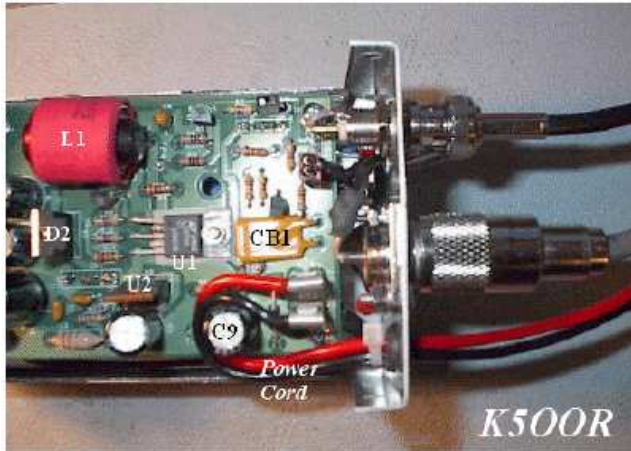

Figure 12. Detail of power cord and cables.
See Figure 12 for details.
- ❑ Put a service loop in the wire around C9. Use a 4-inch cable tie to make a strain relief at the grommet (Figure 12).